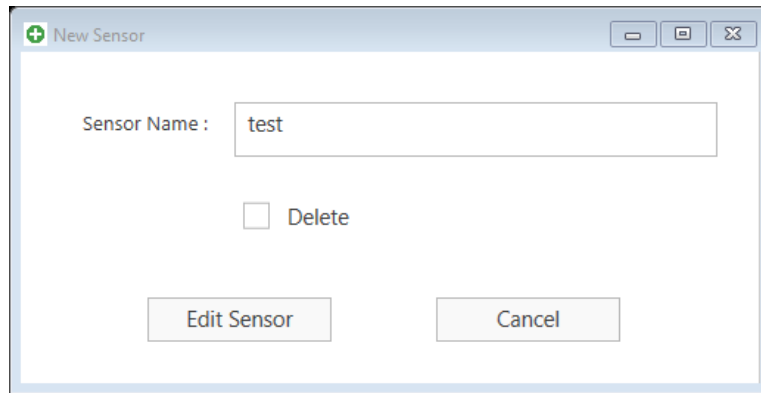

Figure 8. Edit Sensor Page
3. Edit Sensor: Clicking this icon will show Figure 8, which allows you to change the sensor's name or delete it. After clicking on the edit button, the sensor table will be updated, and the sensor information will be deleted or (enabled or disabled) in the table, respectively. Please note that sensor removal due to having information is performed logically.